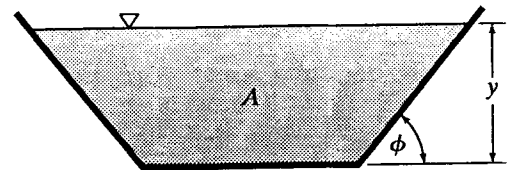

Figure P10.14
10.14 Set up a general expression for the wetted perimeter P of a trapezoidal channel in terms of the cross-sectional area A , depth y , and angle of side slope ϕ (Fig. P10.14). Then differentiate P with respect to y with A and ϕ held constant. From this prove that $R_h = y/2$ for the section of greatest hydraulic efficiency (i.e., smallest P for a given A).